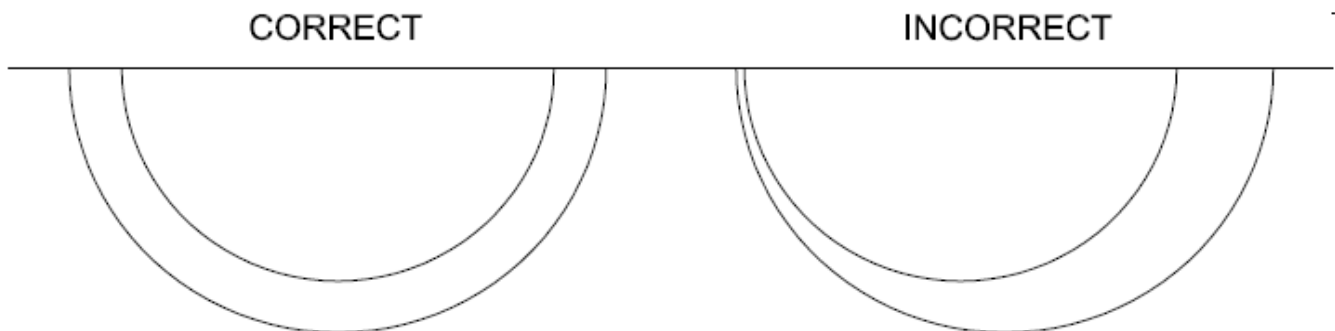

FIGURE 23
3. Check the alignment of the unit. After cleaning the unit, always check the alignment of the punch and die section. To check the alignment, insert the punch and holder, without the springs, into the housing and check the gap. SEE FIGURE 23 BELOW.